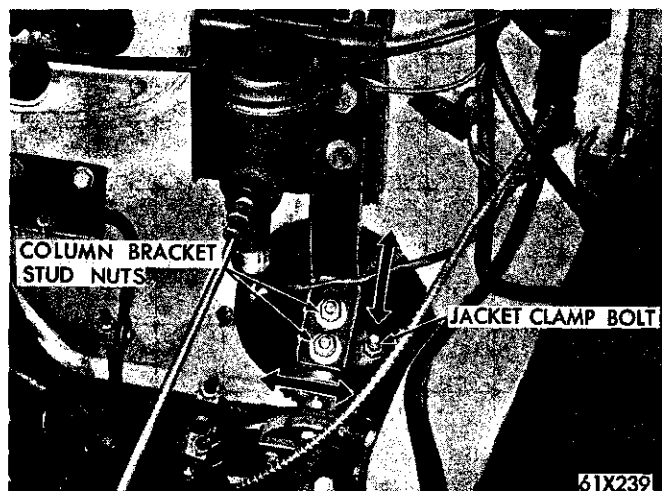

Fig. 16—Steering Gear Alignment
3. STEERING GEAR ALIGNMENT (Fig. 16)
NOTE: A rubber lip type seal is positioned between the upper hub of the flexible coupling and the jacket tube. The outer groove of the seal must be firmly installed on the jacket tube and the two nylon rings (Fig. 16) and the lip of the seal must be well lubricated with a wheel bearing grease.